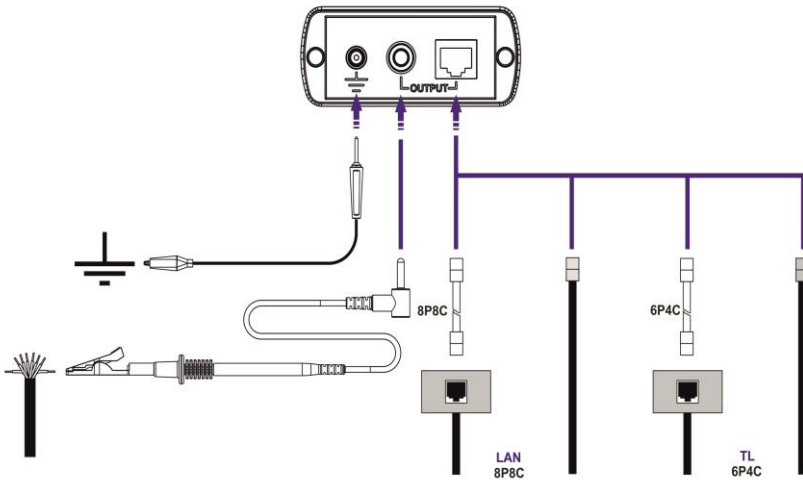

fig.6
The connection of the generator to various types of lines is shown in fig.6.
1. Connect the generator to the line, in accordance with fig.6.